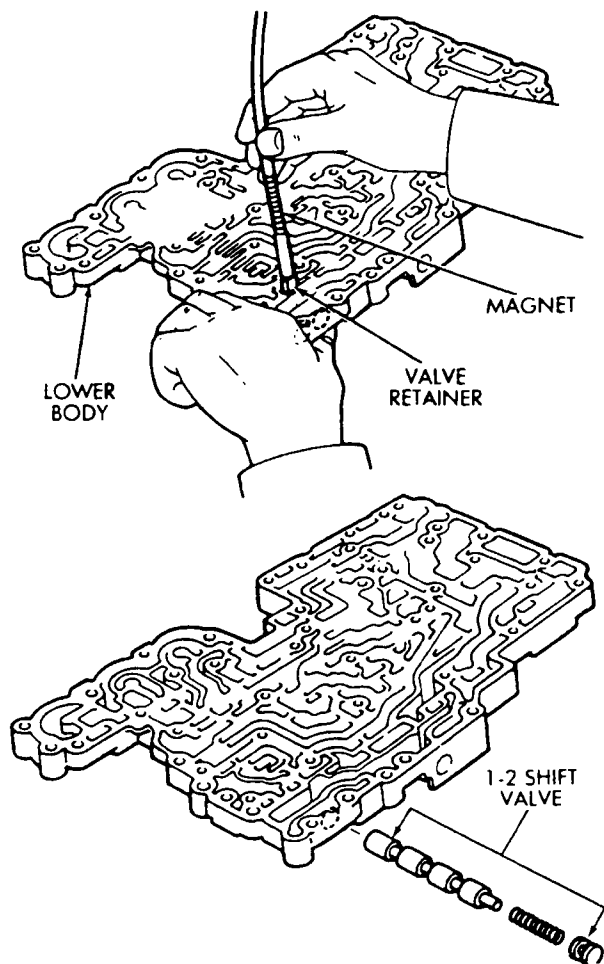

Fig. 5 Removing/Installing 1-2 Shift Valve
(9) Install 1-2 shift valve, spring and plug (Fig. 5). Then press valve assembly into bore and install retainer.